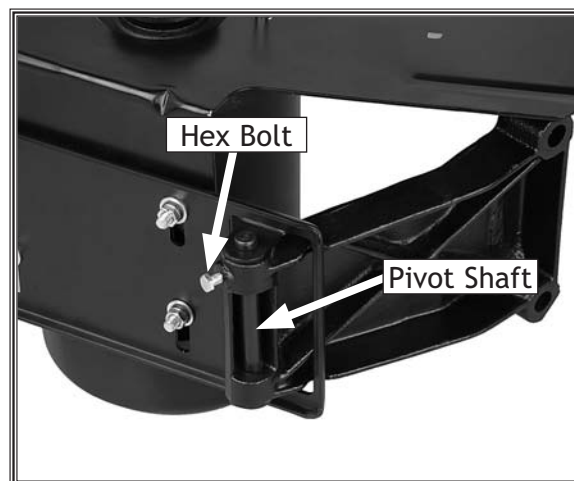

Figure 15. Pivot shaft and hex bolt in mounting bracket.
2. Align the motor bracket holes with the holes in the motor plate and insert the pivot shaft as shown in Figure 15.
3. Secure the pivot shaft with a 1/4"-20 hex bolt threaded into the mounting bracket (Figure 15). Make sure the hex bolt engages the slot in the pivot shaft.